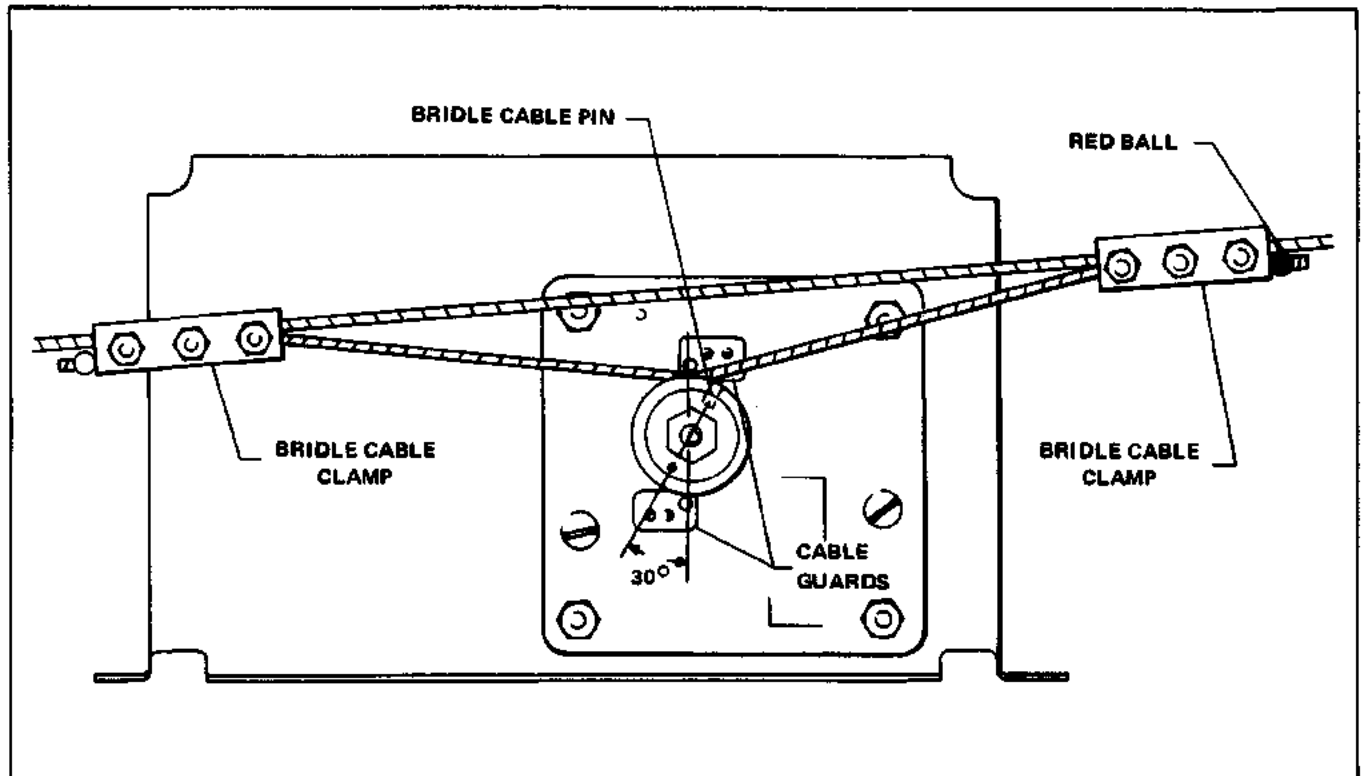

Figure 3-30. Roll Servo Installation, PA-34-200T and PA-44-180
**3-112. INSTALLATION OF ROLL SERVO. (PA-34-200T) (Refer to Figure 3-30.)**
- e. **REFER TO FIGURE 3-8 AND CHECK THAT CONTROL CABLE TENSION (Z) IS ADJUSTED TO  $40 + 5 - 0$  POUNDS PRIOR TO ATTACHING THE BRIDLE CABLE CLAMPS.** Ascertain area on cable where clamps attaches is clean, dry and free of all lubricants and anti-corrosive additives. Attach the bridle cable to the aileron balance cable. The bridle cable is drawn to the balance cable and attached with clamps at the previously painted locations on the balance cable. The longest portion of the bridle cable or the end with the red ball extends outboard toward the left side of the airplane. (Refer to Figure 3-30.) (Should the balance cable not be painted, position the control wheel in neutral and align the bridle cable pin, installed in the capstan, as shown in Figure 3-30.) Adjust the bridle cable clamps so the bridle cable tension (Y) is equal to the control cable tension  $+0 - 15\%$  between the bridle cable clamps (X) as shown in Figure 3-8 without increasing the control cable tension from the bridle cable clamps outward. At no time shall the bridle cable tension be greater than the control cable tension between the two bridle cable clamps. Adjusting the bridle cable tension will lower the control cable tension between the two bridle cable clamps. Torque the bridle cable clamp bolts to  $55 \pm 5$  inch-pounds.